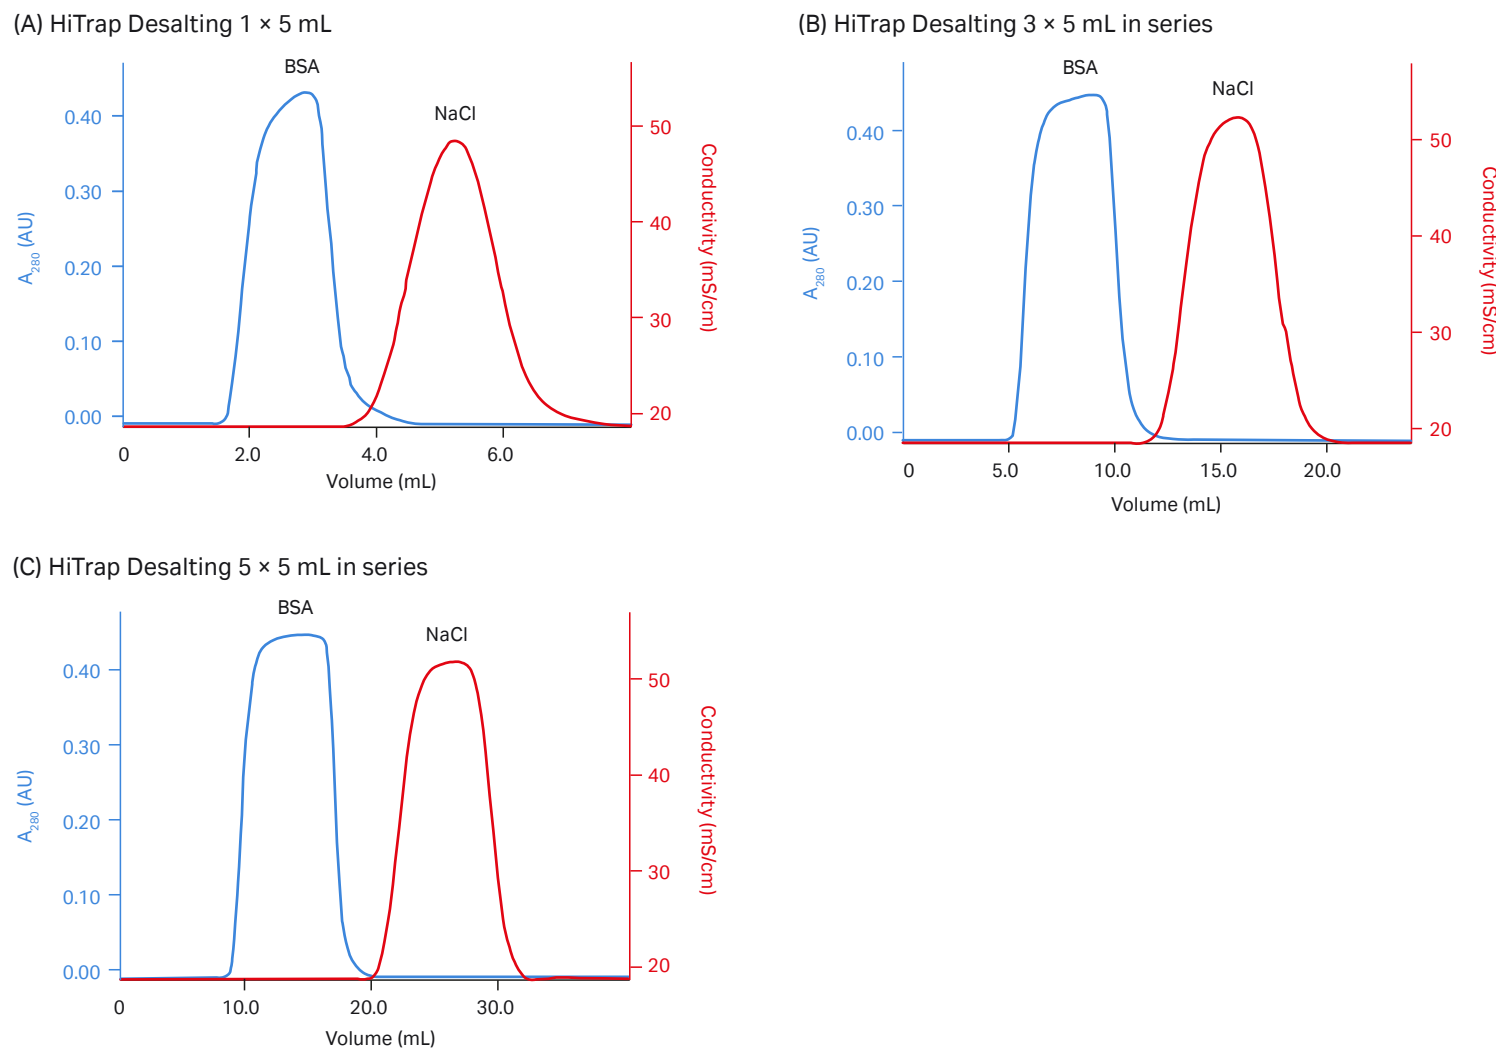

Fig 5.10. Desalting scale-up of bovine serum albumin using HiTrap columns connected in series.
Figure 5.10 (A) to (C) shows the results obtained when one, three, and five HiTrap Desalting columns were connected in series. A sample volume corresponding to 28% of the total bed volume was applied.